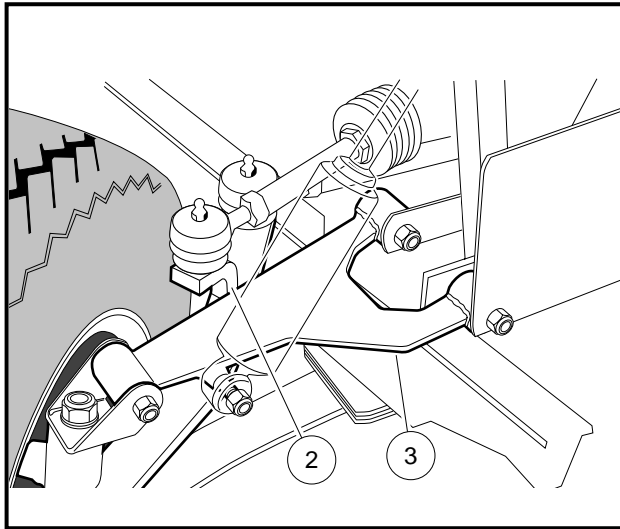

Figure 7-7 Adjust Steering Alignment
1. Turn the steering wheel all the way to the right. Note the distance between the passenger side spindle stop (2) and passenger side A-plate (3) **(Figure 7-7, Page 7-8)**. The internal stop on the rack must reach its limit of travel against rack and pinion housing at exactly the same time the spindle stops against the passenger side A-plate (with vehicle wheels turned to the right). If simultaneous contact occurs, steering is in correct adjustment; Proceed to step 4. If simultaneous contact does not occur, proceed to step 2.